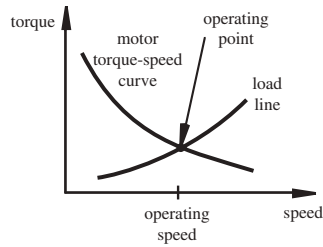

Figure 10.38 Motor operating speed.
- *For a given motor torque-speed curve and load line, what will the operating speed be?* As Figure 10.38 illustrates, for a given motor torque-speed curve and a well-defined load line, the system settles at a fixed speed operating point. Furthermore, the operating point is self-regulating. At lower speeds, the motor torque exceeds the load torque and the system accelerates toward the operating point, but at higher speeds, the load torque exceeds the motor torque, reducing the speed toward the operating point. The operating speed can be actively changed by adjusting the voltage supplied to the motor, which in turn changes the torque-speed characteristic of the motor.